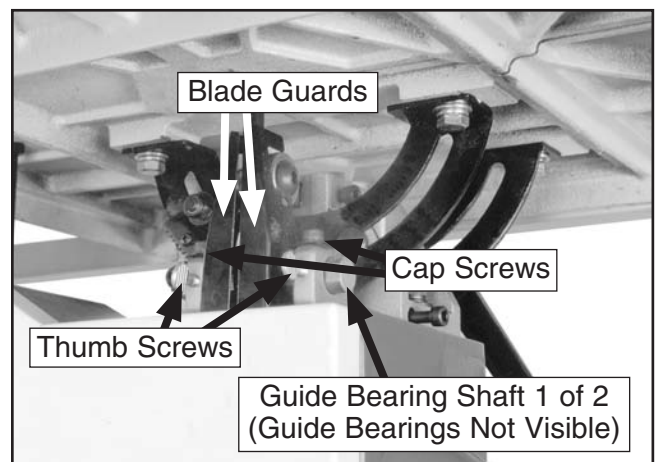

Figure 31. Front of lower blade guide.
- Remove the cap screws shown in **Figure 31** and remove the blade guards.
4. Loosen the thumb screws shown in **Figure 31** and slide the guide bearings away from the blade.